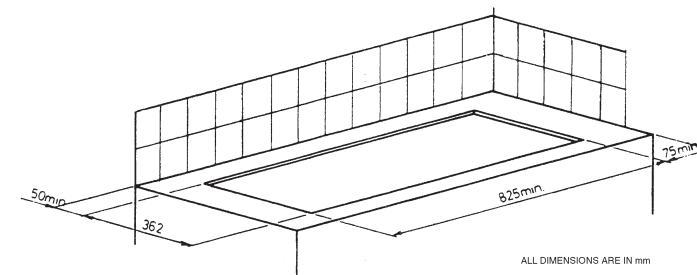

Fig. 2B
- RETAINING BRACKETS** (Refer to Fig 2B)